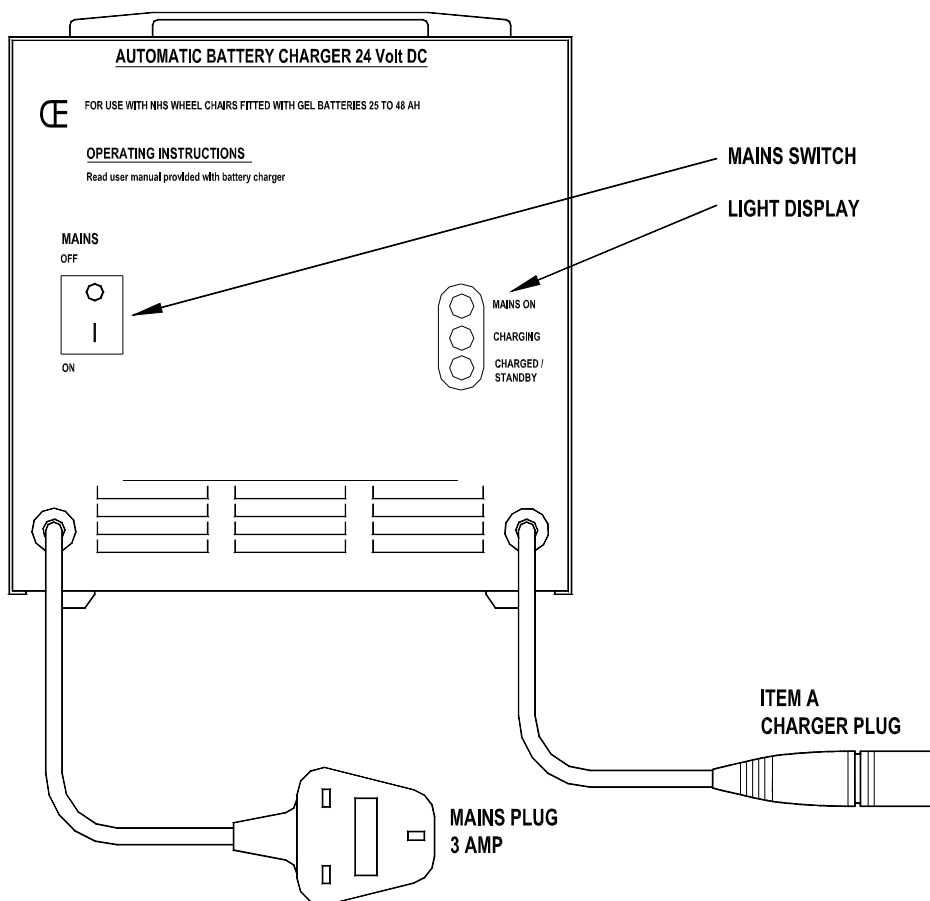
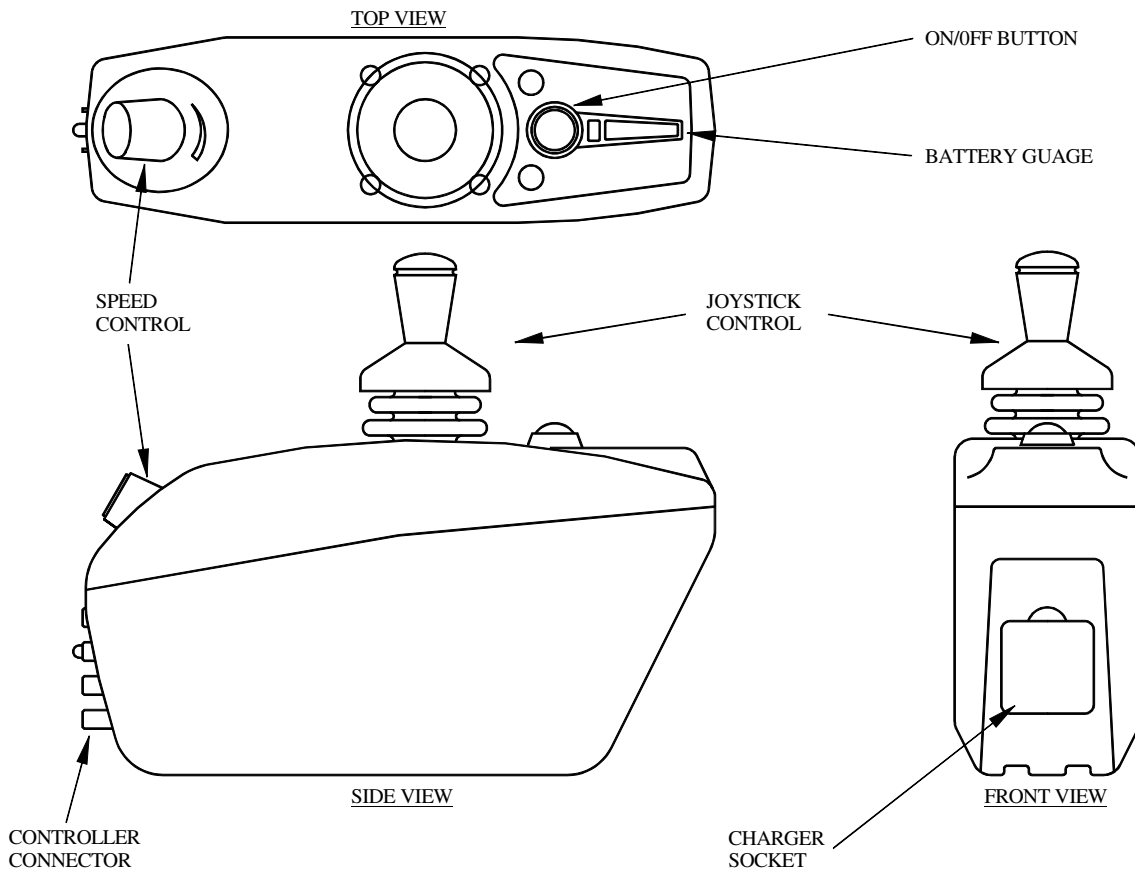

FIG.9.
FIG.10.
The charger also has a plug fitted to connect your charger to your wheelchair controller. See 'Item A' in figure 9.
3. Connect the charger output plug, 'Item A' in figure 9, to the wheelchair charger socket. See figure 10.
This is a green pushbutton switch fitted in front of the joystick which turns the controller on and off. **Do not** use this switch to stop the wheelchair except in an emergency. See figure 10.
This is a 10 segment illuminated display which indicates if the controller is turned on and also gives the status of the battery, the controller and the wheelchair electrical system. See figure 10.
Controls the speed and direction of the wheelchair. Push the joystick in the direction you wish to go. The further you push it, the faster the speed. Releasing the joystick stops the wheelchair automatically. See figure 10.
Sets the maximum speed of the wheelchair: turn clockwise to increase the speed, anti-clockwise to decrease. See figure 10.